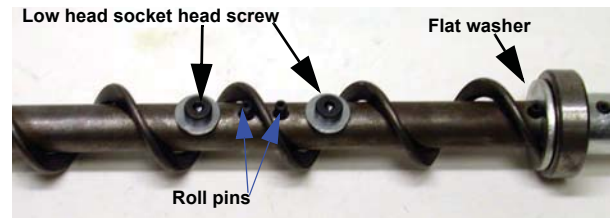

Figure 57. Auger and Anchor Bearing Connection
If the system must be disassembled, extreme caution must be used to prevent injury from springing auger. Refer to **Figure 57**.
1. Insert the Anchor Assembly into the auger, guide the tip of the auger between the two roll pins in the center of the anchor. Continue to guide the auger until the tip of the auger hits the flat washer. Tighten the setscrews in the center of the anchor until they touch the See **Figure 57**.